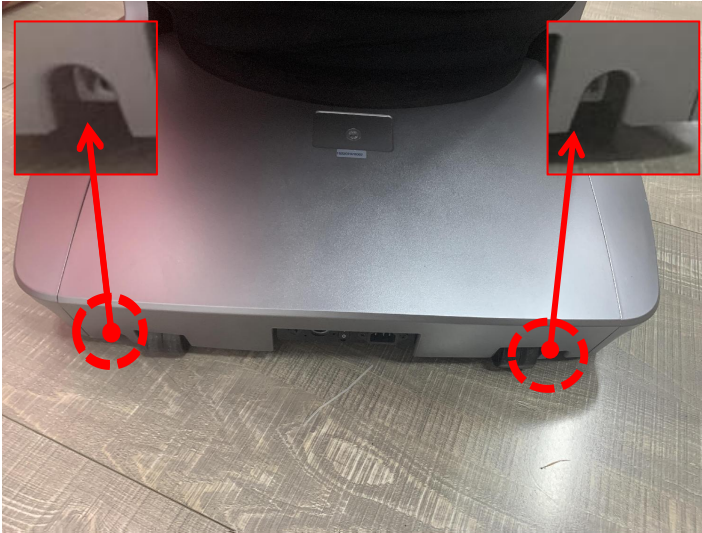

Figure 1
1. Remove the two screws of the back cover (Figure 1)